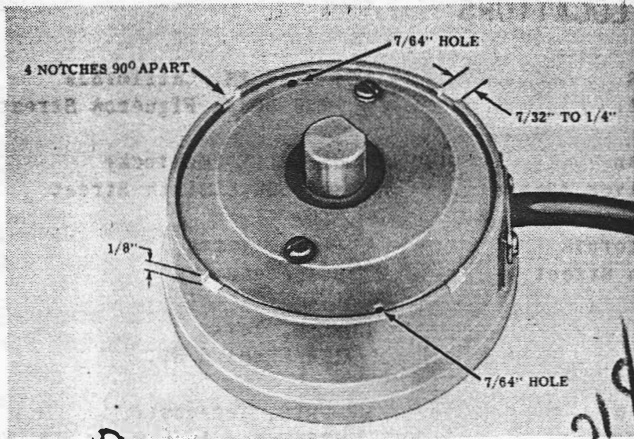

FIG. 1
1. Remove the tachometer drive unit assembly and drill two 7/64" holes through the unit in the groove adjacent to the outer rim. (See Fig. 1).
2. File 1/4" notches in the rim of the unit (See Fig. 1). Install the tachometer drive unit and assemble the rotor and distributor cap and wires.